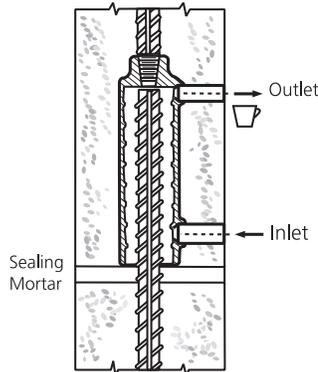

FIGURE 1: Pump Fill Installation
3. If grouting is interrupted, keep recirculating the HY15LM by operating the pump with the nozzle in the hopper. This movement of the HY15LM will aid in keeping it fluid. If the shut down exceeds the limits of time specified in this manual noted in Figure 1 of Working Time at Temperature, the grout will not be pumpable and will need to be discarded.
2.6 Pump Fill Installation Instructions For HY15LM Grout (Vertical, Horizontal and Inclined Application as Shown in Figure 1)